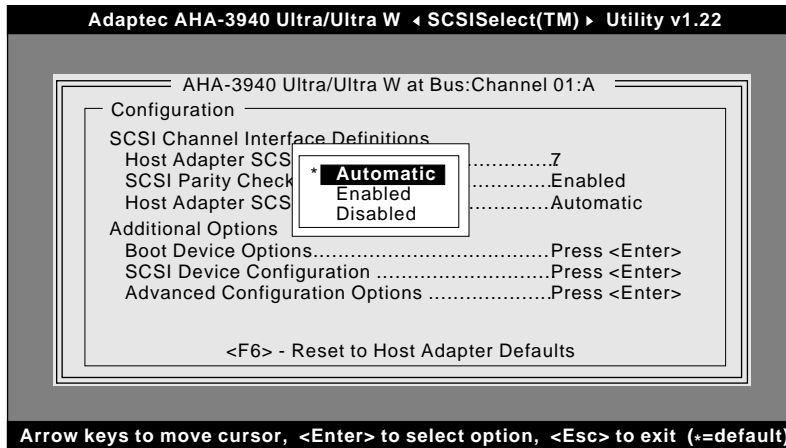

Figure 3-7. Host Adapter SCSI Termination Selection for AHA-3940U/3940UW/3940UWD
- 2 Highlight **Host Adapter SCSI Termination**, then press **Enter**. A pop-up menu appears, as shown in Figure 3-7.